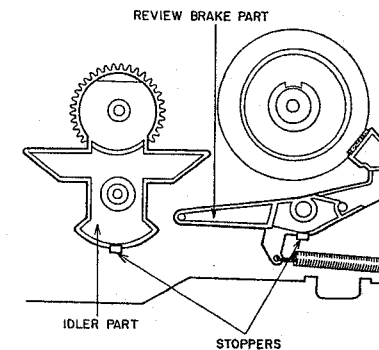

Fig. 3-18
- Release the stopper of IDLER PART as shown in Fig. 3-18, then remove it.